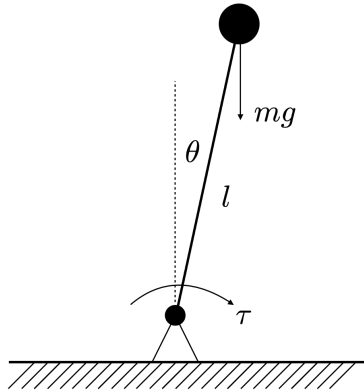

Figure 1: Pendulum schematic
The pendulum in figure 1 has stable and unstable equilibria - upright and inverted positions. Upright yields stable behaviour against perturbations. Inverted configuration results in unstable falling from disturbances, posing a control challenge. Simulating the pendulum's dynamics shows this behavior. Analysis provides control insights to stabilize the unstable inverted configuration, addressing a classic problem.
Consider the following figure 1 with the following equations of motion
1. (1 point) Derive the transfer function of the system in figure 1 based on the linearized equations of motion.